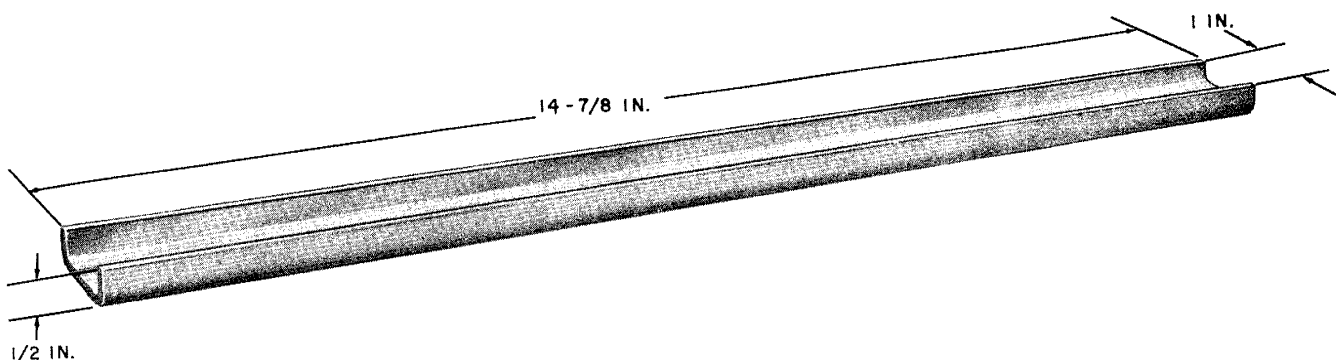

Fig. 3—P-48F349 Rail
- Two P-48F349 rails (Fig. 3)
(2) D-179940 Kit of Parts which includes: